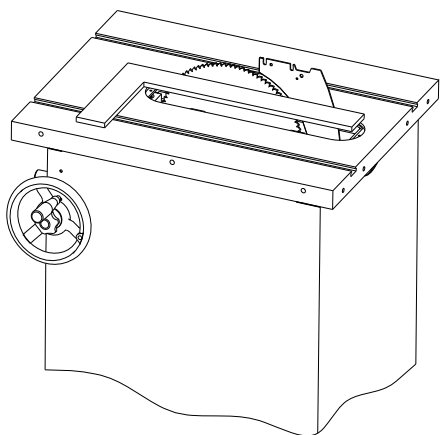

Fig. 15 (checking riving knife alignment)
3. Check both sides of the blade with a straight edge touching the teeth as shown in **Figure 15**: